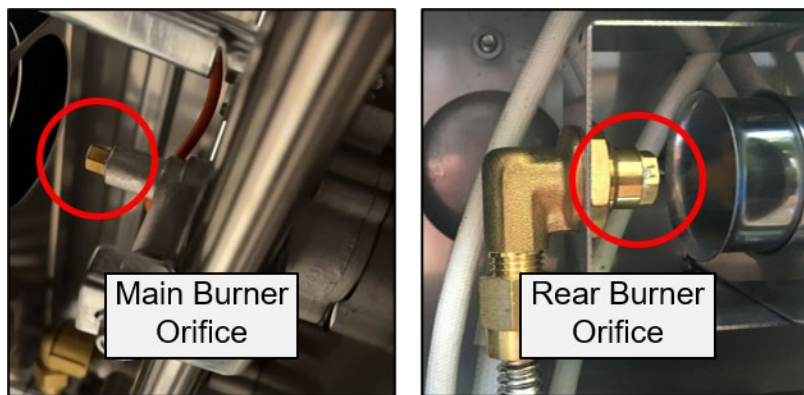

Figure 28 Burner Orifice Leak Test
6. Looking up from below the control knobs (Figure 28 left), spray each orifice with soapy water to check for bubbles
7. To leak test the rear burner orifice, open the rear panel to access the orifice (Figure 28 right) and spray with soapy water to check for bubbles